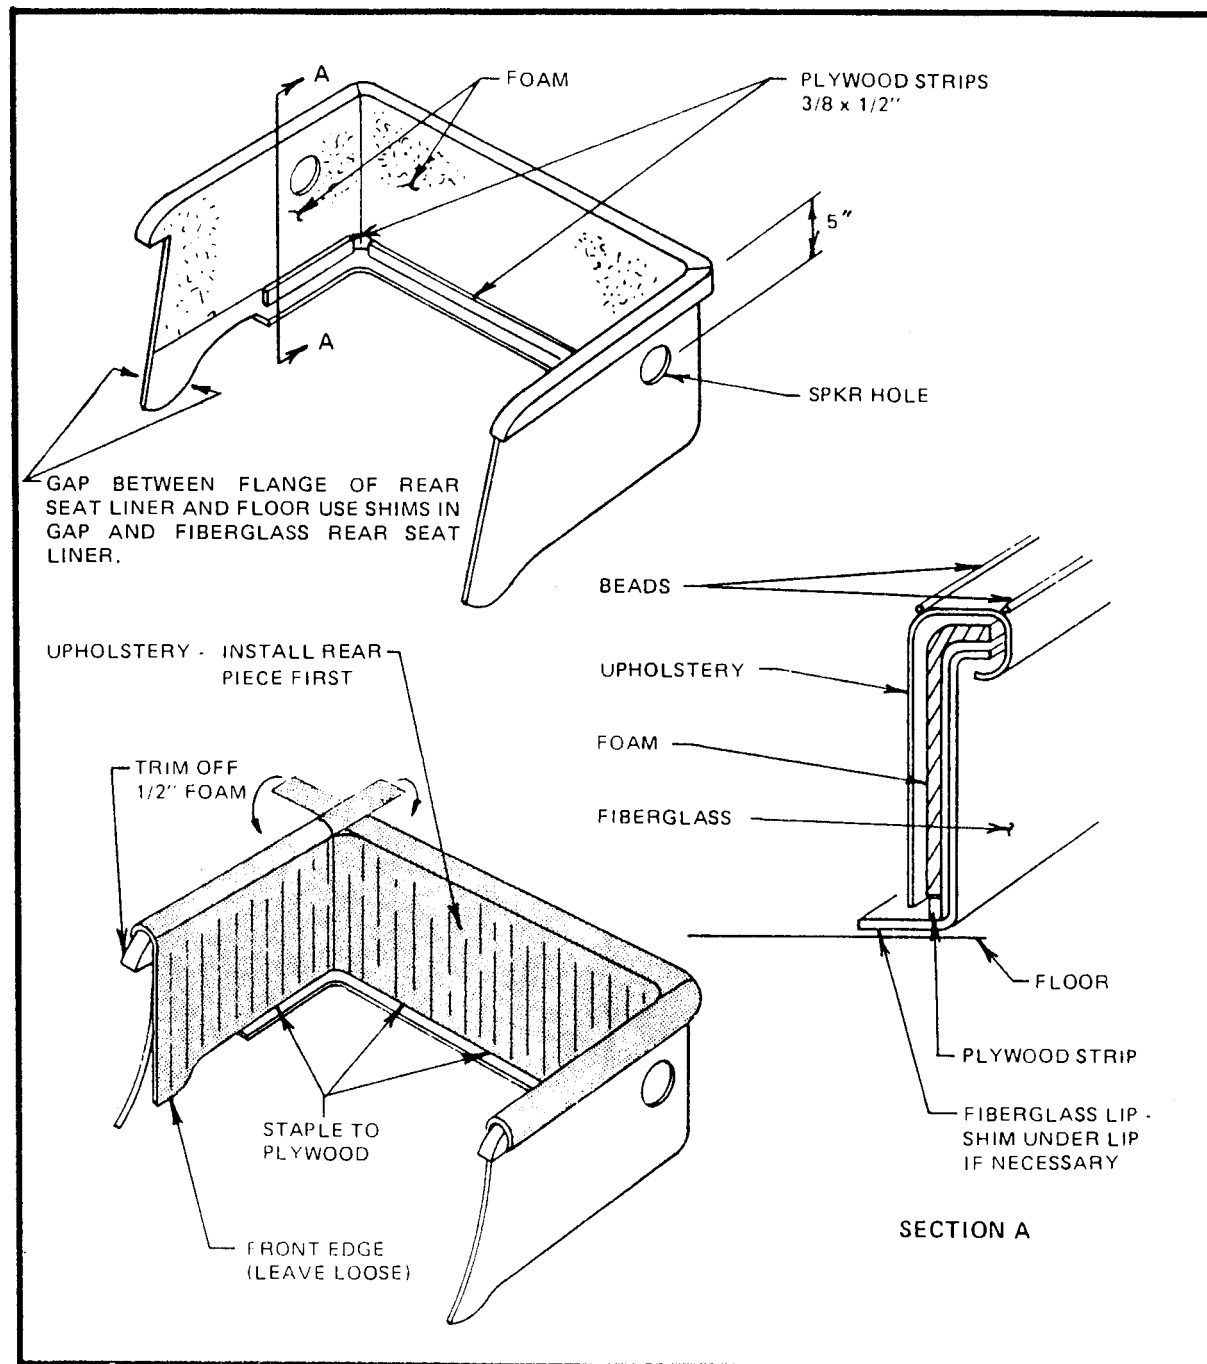

Figure 4
- Using No. 10 x 3/4" round head wood screws attach strips of 3/8" plywood, 1/2" wide, all around the inside of the fiberglass seat. (Figure 4) This strip provides a surface to which the upholstery can be stapled.
- Staple the upholstery to the plywood strips. (Figure 4) Start at the center of the back and work outward in each direction.